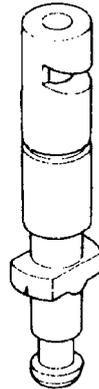

**Figure 16 Main Fuel Filter**
**51.** The main fuel filter, located at the front right-hand side of the engine, is comprised of a mounting adaptor, a removable housing, a disposable cartridge and a drain plug (refer to Figure 16). Due to the fine tolerances required for the injection pump components and the injectors, the fuel filter is designed to remove contaminants from the fuel in sizes of 100 microns or larger.